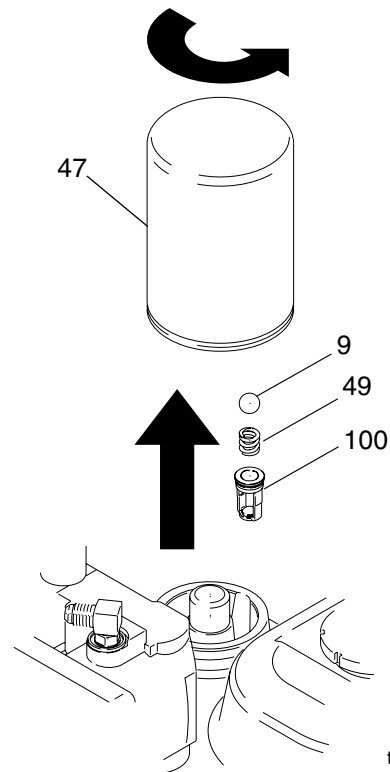

FIG. 6
1. Fig. 6. Place drip pan or rags under sprayer to catch hydraulic oil that drains out.
2. Remove drain plug (40). Allow hydraulic oil to drain.
3. Unscrew filter (47) slowly - oil runs into groove and drains out rear.
4. Remove and replace ball (9), spring (49), and retainer (100).